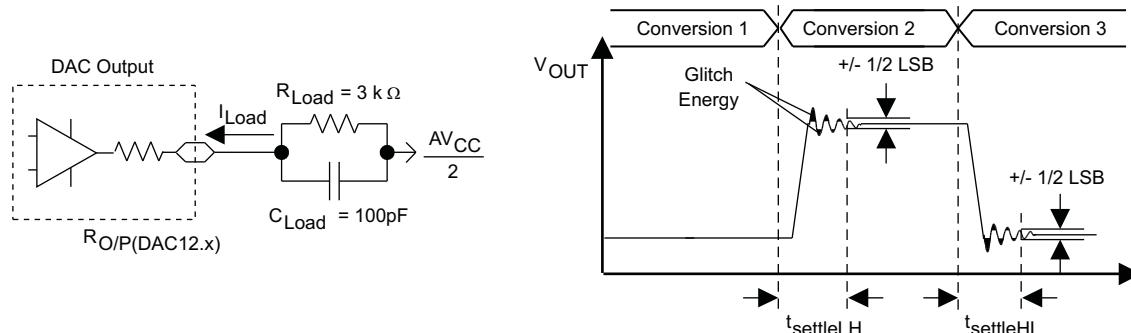
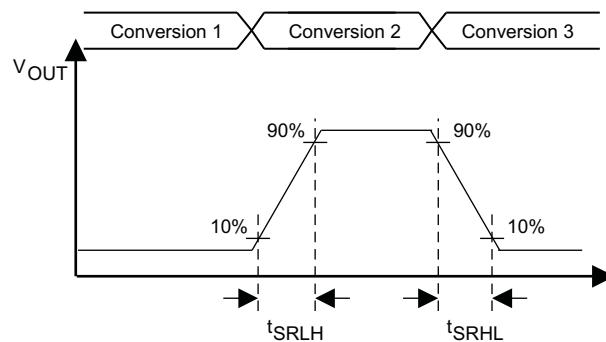

Figure 5-24. Settling Time and Glitch Energy Testing
Figure 5-25. Slew Rate Testing
$V_{ref} = V_{CC}$, $DAC12IR = 1$, over recommended ranges of supply voltage and operating free-air temperature (unless otherwise noted) (see Figure 5-24 and Figure 5-25)
(1) R_{Load} and C_{Load} connected to AV_{SS} (not $AV_{CC}/2$) in Figure 5-24.
(2) Slew rate applies to output voltage steps ≥200 mV.